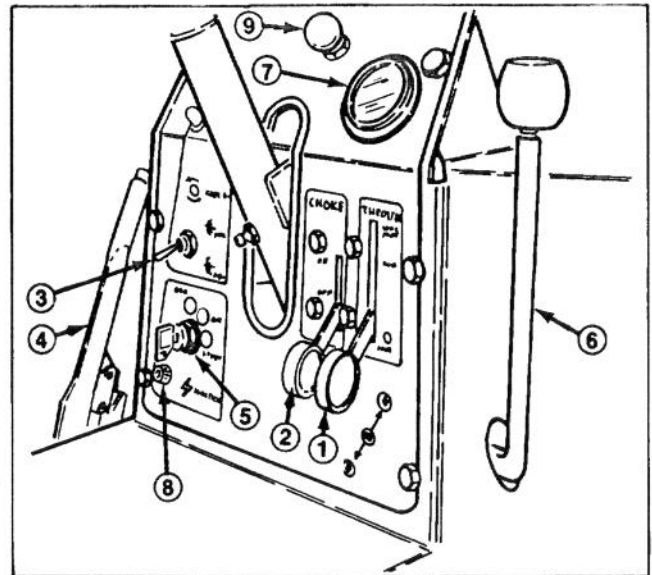

Figure 24
**Ignition Switch (Fig. 24)** — The ignition switch, used to start and stop the engine, has three positions: OFF, RUN and START. Rotate key clockwise — START position — to engage starter motor. Release key when engine starts. The key will move automatically to the ON position. To shut engine off, rotate key counter-clockwise to OFF position.
**Choke (Fig. 24)** — To start a cold engine, close carburetor choke by moving choke control upward to ON position. After engine starts, regulate choke to keep engine running smoothly. As soon as possible, open the choke by pulling it downward to the OFF position. A warm engine requires little or no choking.
**Throttle (Fig. 24)** — Throttle is used to operate engine at various speeds. Moving throttle upward increases engine speed, downward decreases engine speed. The throttle controls the speed of the reel blades and, in conjunction with traction pedal, controls ground speed of the machine. Position control in MOW for normal cutting. To attain TRANSPORT, move control to MOW, push control to right, then up to transport.
**Cutting Unit Lift Lever (Fig. 24)** The lift lever has three positions: LOWER, RAISE, and NEUTRAL. To lower cutting units to the ground, move lift lever forward. When lowering cutting units, make sure hydraulic cylinder is completely retracted before releasing lift lever. To raise cutting units, pull lift lever rearward to the RAISE position. Cutting units will not operate unless cylinder is retracted or when lifted. To decrease play in lever, tighten retaining locknut.
**Reel Drive Switch (Fig. 24)** — The switch has two positions: ENGAGE and DISENGAGE. Toggle switch engages electromagnetic clutch to drive reels. Amber light on dash indicate when reels are rotating.
**Hour Meter (Fig. 24)** — Indicates the total hours of machine operation. The Hour Meter starts to function whenever the key switch is rotated to "ON".
**Fuse Holder (Fig. 24)** — A 30 Amp fuse protects the starter circuit. To replace fuse, rotate knob counter-
**Parking Brake** (Fig. 24) — Whenever the engine is shut off, the parking brake must be engaged to prevent accidental movement of the machine. To engage the parking brake, pull back on lever.